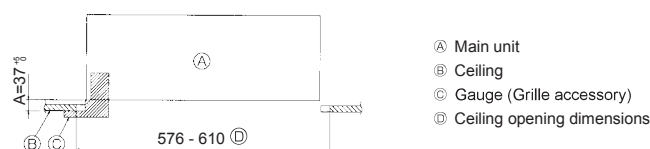

Fig. 4-6
3. When the main unit can not be aligned against the mounting hole on the ceiling, it is adjustable owing to a slot provided on the mounting plate. (Fig. 4-6)